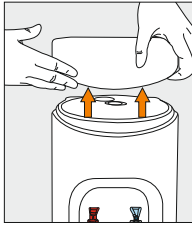
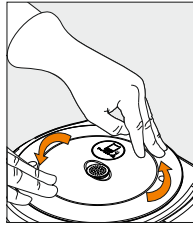
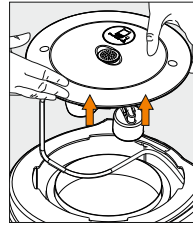
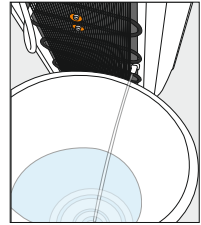

Figure 16
Figure 17
Figure 18
Figure 19
3. Remove the POU Cover (if installed) (Figure 16) Use the fingertips of both hands to press on the POU Lid Assembly and turn counter clockwise till it is free from the cooler opening. (Figure 17 and Figure 18) Lift off of the cooler, and set aside. Drain the water from the reservoir and hot tank (Figure 19), remembering to cool and drain hot tank. Allow 1 hour for hot water to cool down.